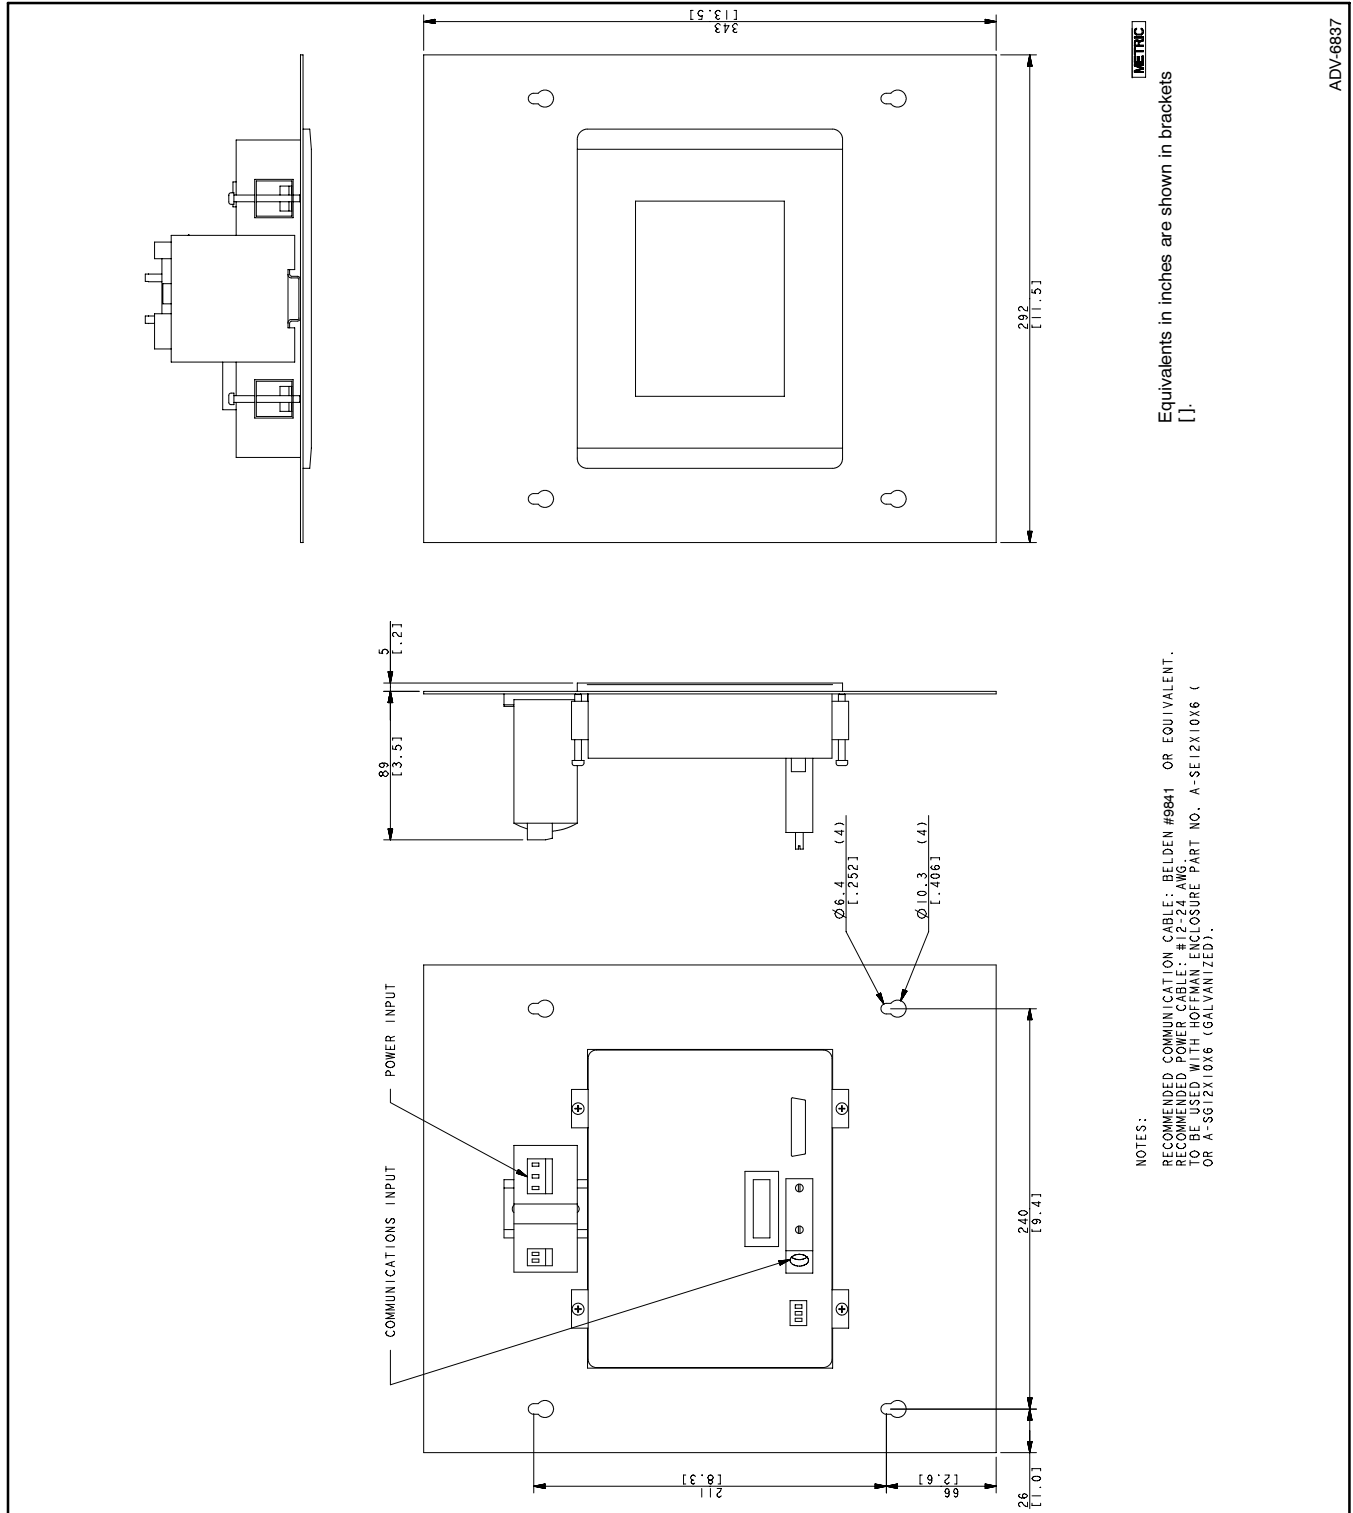

Figure 5 Dimension Drawing, Flush-Mounted Annunciator, Kit Part Numbers GM29905-KP1 and GM29905-KP1S
2. Select a location for the mounting plate that provides adequate clearance and depth for the annunciator, power supply, and connectors. See Figure 5. Use the dimensions shown in Figure 5 or use the mounting plate as a template to mark and drill holes in the mounting surface. Remove burrs and metal chips.